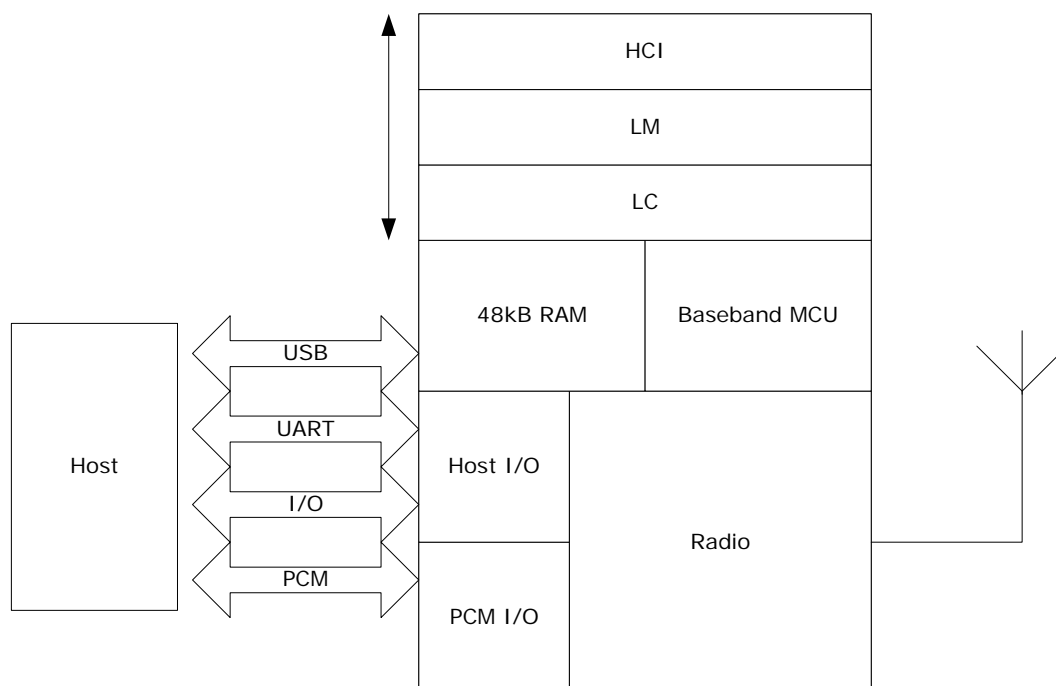

Figure 23: HCI Stack
In figure 23 above, the iWRAP software solution is described. In this version of the stack firmware shown no host processor is required to run the *Bluetooth* protocol stack. All software layers, including application software, run on the internal RISC processor in a protected user software execution environment known as a Virtual Machine (VM).
The host processor interfaces to iWRAP software via one or more of the physical interfaces, which are also shown in the figure 23. The most common interfacing is done via UART interface using the ASCII commands supported by the iWRAP software. With these ASCII commands the user can access *Bluetooth* functionality without paying any attention to the complexity, which lies in the *Bluetooth* protocol stack.